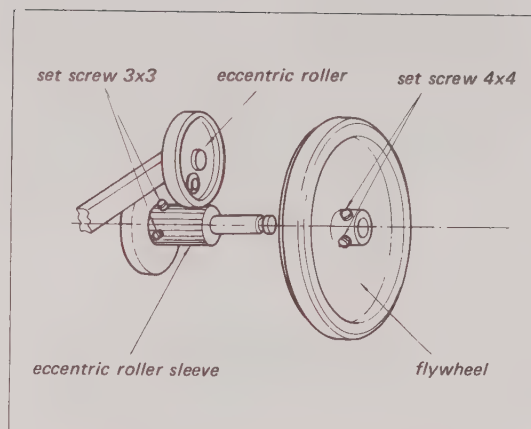

Fig. 5-51. Eccentric roller replacement
3. Refer to Fig. 5-51. Pull off the E4 washer on the Eccentric Roller. Apply a drop of oil to the bearing before installing the new roller.